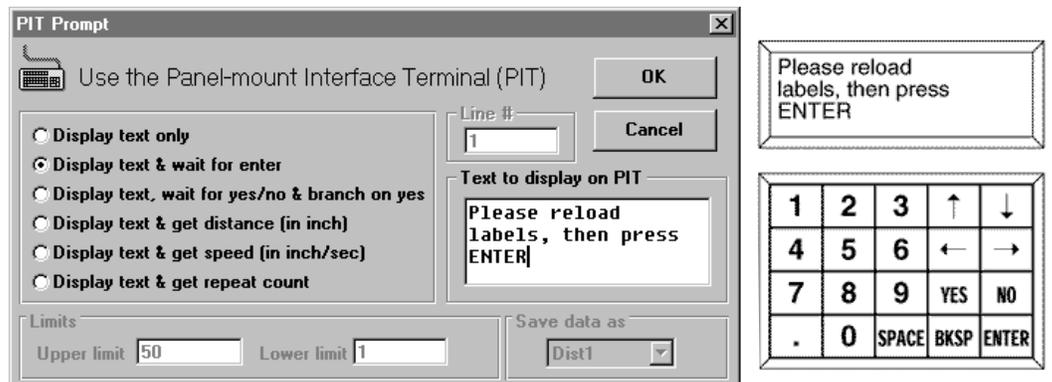

Figure 37 - PAUSING UNTIL USER PRESSES ENTER
**TO PAUSE UNTIL USER PRESSES ENTER (SEE FIG. 37):**